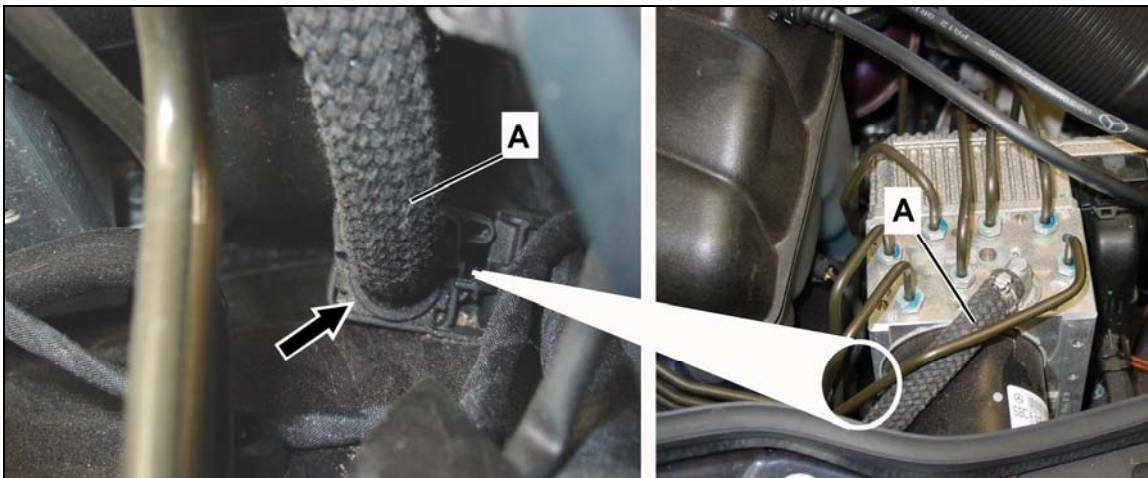
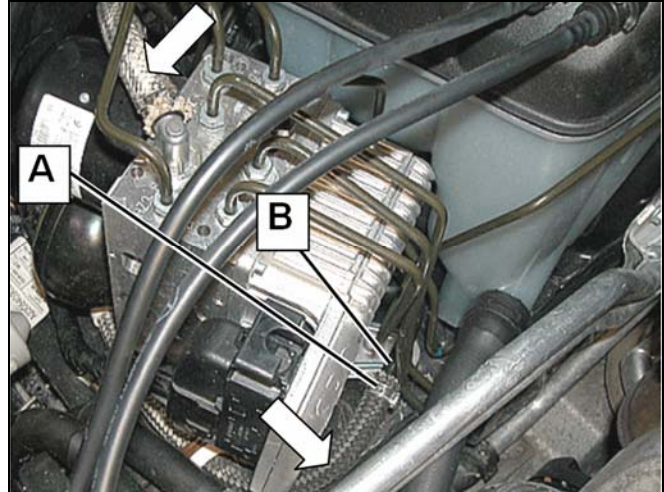

Figure 7
Figure 8 (Shown with SBC hydraulic unit installed)
9. Replace suction hose (A, Figure 7):
- Open the suction hose mounting clip (arrow) and remove suction hose (A) from bracket.
- Remove hose clamp (A, Figure 8) then remove suction hose (arrow) from suction line (B) using a plastic wedge (Example: Special Tool: W110 589 03 59 00).
- Do not use sharp-edged tools (e.g., screwdriver) to remove suction hose (arrows, Figure 8) from suction line (B), as this may cause damage to the SBC brake system.
- When removing suction hose (arrow), do not bend suction line (B).
- To prevent brake fluid from running out and to prevent contamination in the brake system, the suction hose (arrows, Figure 8) and line (B) are to be plugged using suitable plugs from the stop plug kit (Special Tool: W129 589 00 91 00).
- Discard old suction hose (arrow) and clamp (A) after removal.